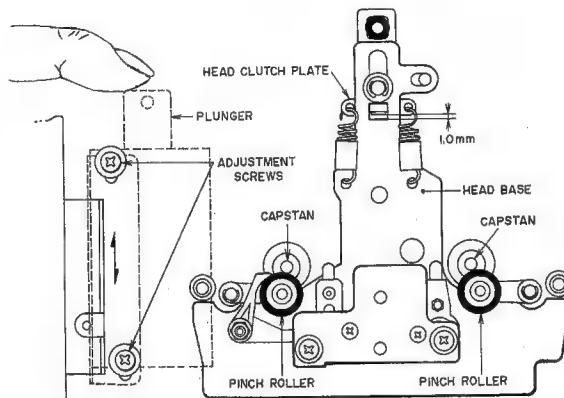

Fig. 6
3. PLAY PLUNGER INSTALLATION POSITION ADJUSTMENT (Refer to Fig. 6)
The clearance between the head base and head clutch plate when the plunger is moved as indicated in Fig. 6 at stop mode should be approximately 1.0 mm. If not, adjust play plunger position with the adjustment screws in the direction as indicated by the arrow mark.